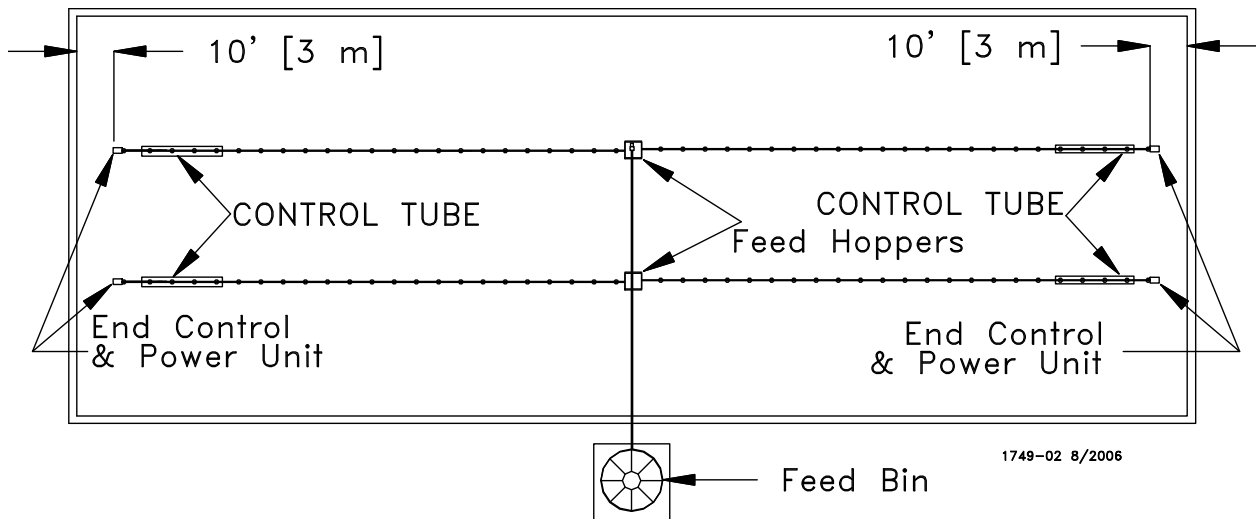

Figure 2. Component location diagram for systems over 350 feet [122 m]. (Top View).
B. Systems with line lengths over 350' [122 m] should be split in the center, as shown in Figure 2.. This will reduce auger running time and eliminate the need for Mid-Line Controls for partial house brooding.